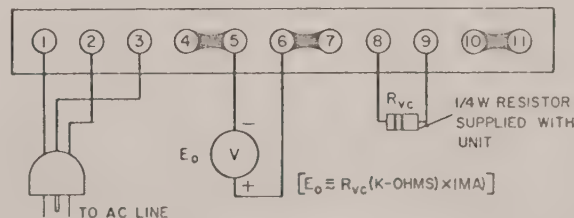

FIG. 2-3 OPERATIONAL CHECK
2.12 OPERATIONAL CHECK (Refer to Fig. 2-3)